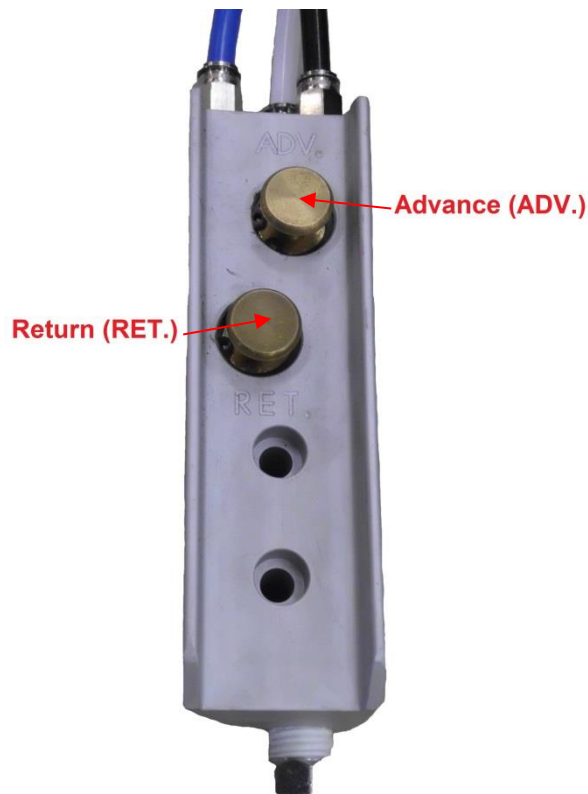

Figure 2 - DPR-174S – Remote Pendant
- 5.1.2 **Advance** - Press the remote pendant ADV. button (see Figure 2) to start the air motor and advance the cylinder until the desired pressure, load or position is reached. Releasing the ADV. button will stop the motor and hold the cylinder position.
- 5.1.3 **Retract** – Press the remote pendant RET. button (see Figure 2) to start the air motor and retract the cylinder until the desired pressure, load or position is reached.